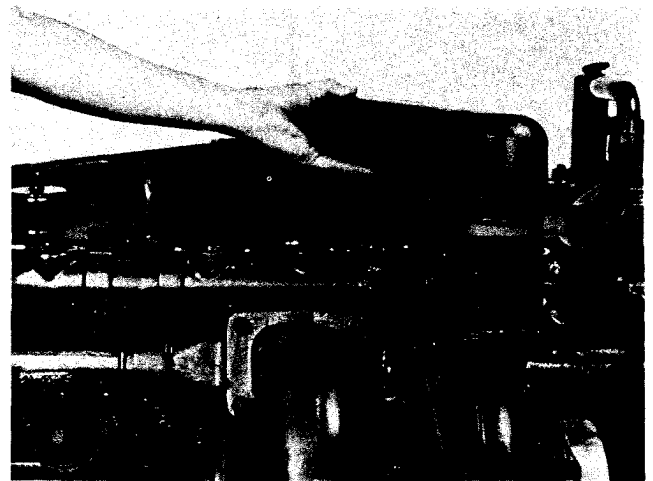

Fig. 0-7, (N100139). Removing air crossover connection
1. Disconnect air connections between turbocharger and aftercooler/intake manifold. Fig. 0-7.